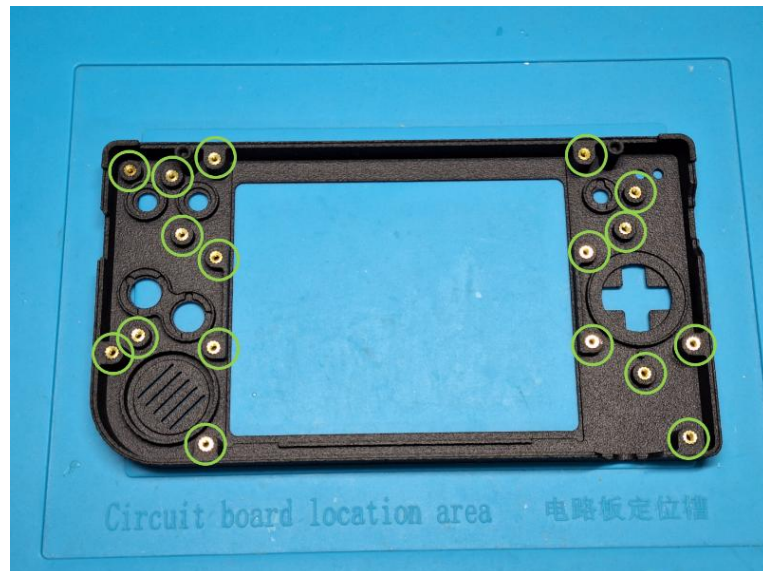

Figure 8: Heat-set inserts installed in front shell
2. **Nylon (SLS/MJF):** Install seventeen heat-set threaded inserts using a soldering iron as shown in Figure 8.